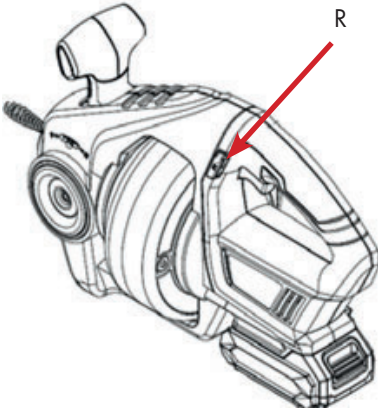

Fig.4
- Press L for forward rotation and R for reverse rotation (Fig. 4 and 5).
- Use the reverse rotation direction exclusively to release the spiral shaft from a blocked condition (Fig. 4).